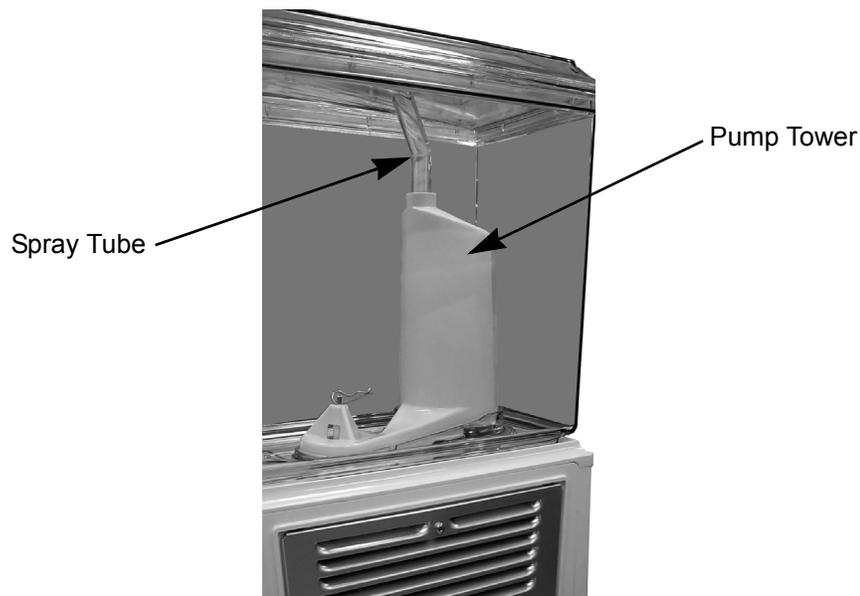

Figure 1.
8. Place the spray tube into the top of the pump tower. Make sure the tube faces the front of the unit, as shown in Figure 1.